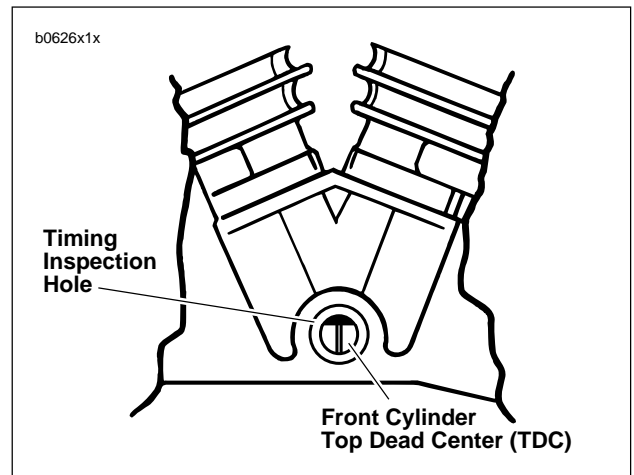

Figure 1-46. Timing Marks
- b. See Figure 1-46. Rotate rear wheel until TDC mark is centered in timing inspection hole.